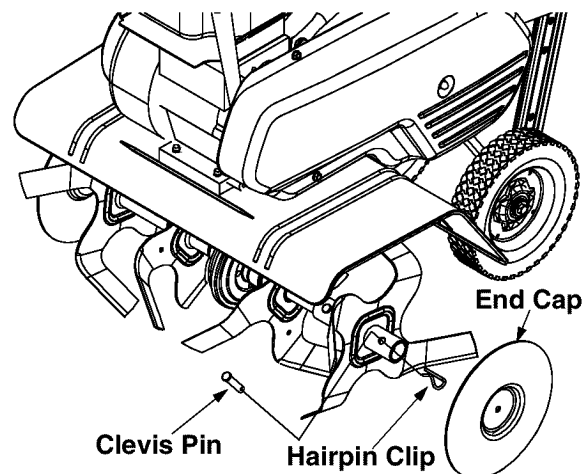

Figure 10
- Push primer two (2) or three (3) times. See Figure 10. Wait about two (2) seconds between each push.
**NOTE:** *If engine fails to start after three (3) pulls, push primer two (2) times and pull starter rope again.*
The end cap, which are used to avoid tilled soil from overflowing onto unwanted areas, are removable from the outer axle. Remove the hairpin clip and clevis pin that is securing each end cap and slide end cap off the axle. See Figure 10.